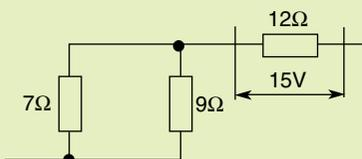

Figure 24
7. Calculate the current in each resistor in Figure 24.